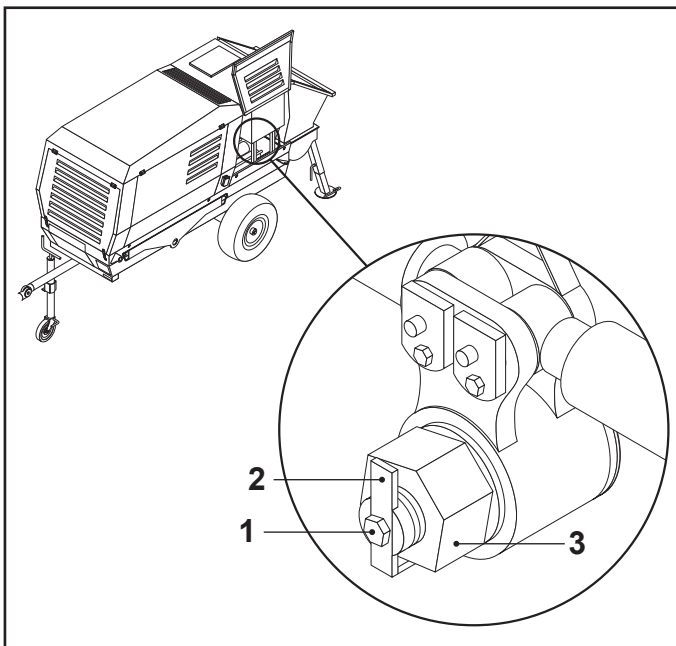
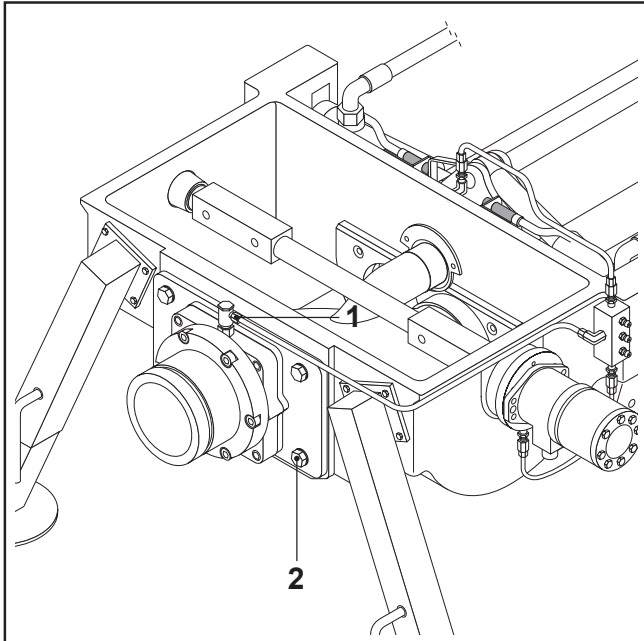

FIG. 73
FIG.74
- Remove the TE screw (FIG. 73-REF. 1), remove the lever locking the adjustment nut (FIG. 73-REF. 2) and loosen or tighten the adjustment nut as required (FIG. 73-REF. 3); usually it is sufficient to turn the nut by 60°-120°.
- Put back the nut-locking lever (FIG. 73-REF. 2) and fasten it with the screw (FIG. 73-REF. 1).
- Remove the rigid grease fitting (FIG. 74-REF. 1) on the greasing flange.
- Loosen the 4 TE screws (FIG. 74-REF. 2) and remove the delivery flange.
- Remove the TE screw (FIG. 73-REF. 1), remove the lever locking the adjustment nut (FIG. 74-REF. 2) and remove the adjustment nut (FIG. 74-REF. 3).